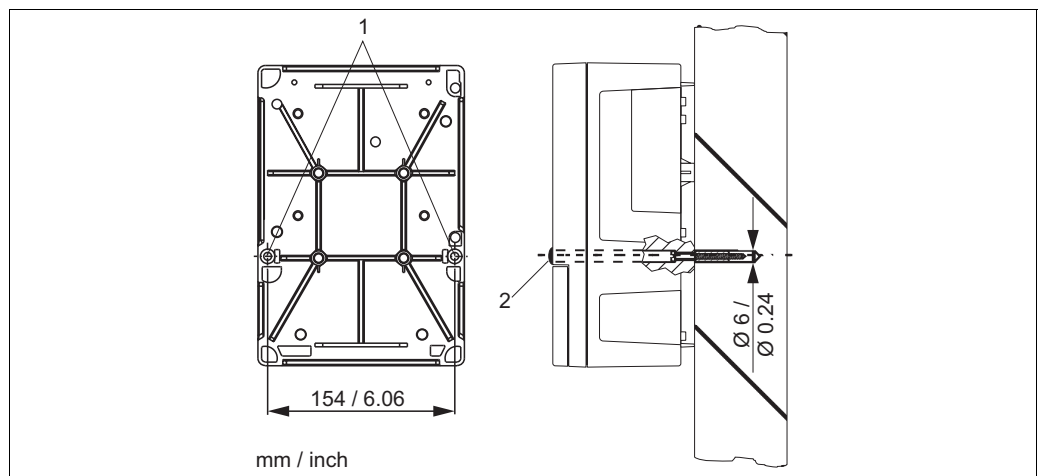

Fig. 8: Wall mounting field device
1. Drill the bores as shown in Fig. 8.
2. Drive the two fixing screws through the securing bores (1) from the front.
4. Cover the bores with plastic caps (2).